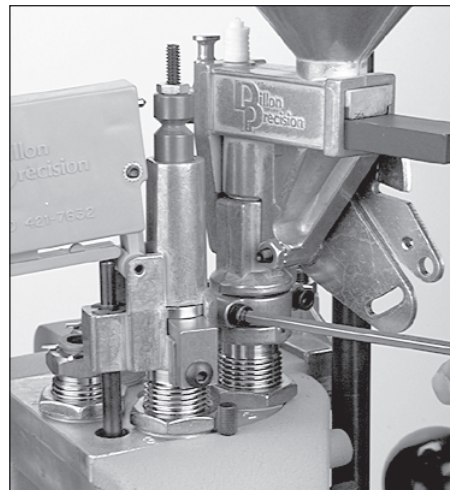

FIG 156
2. Loosen the two powder measure clamp screws **FIG 156**.